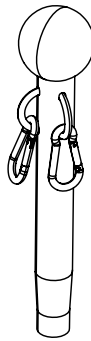

Figure 38: 13 in. (34 cm) push bar
2. Identify the two (2) 13 in. (34 cm) push bars (Figure 38).